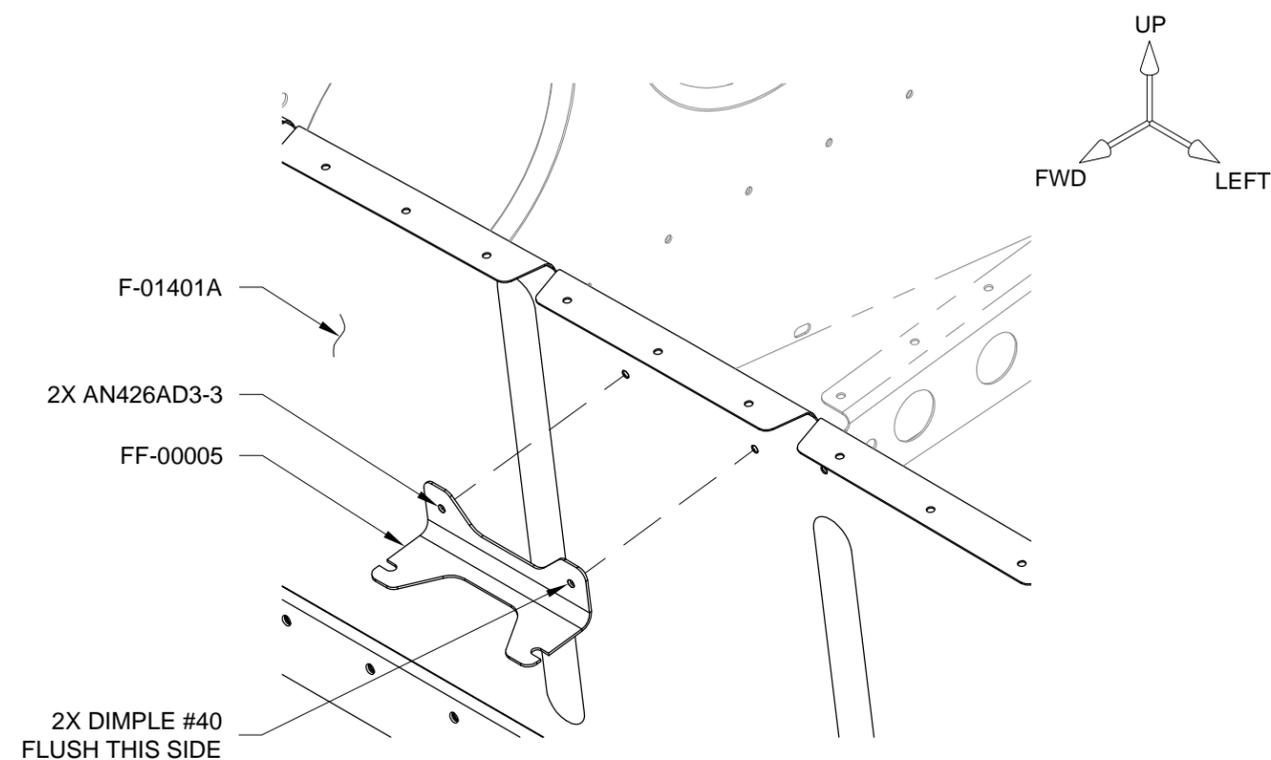

FIGURE 2: INSTALL COWL PIN RETENTION BRACKET
(SEE PAGE 35-08 FIGURE 2)
Step 3: Dimple the #40 holes in the FF-00005 Cowl Pin Retention Bracket where indicated in Figure 2.
Step 4: Cleco then rivet the FF-00005 Cowl Pin Retention Bracket to the forward face of the F-01401A Firewall Top using the rivets called out in Figure 2.